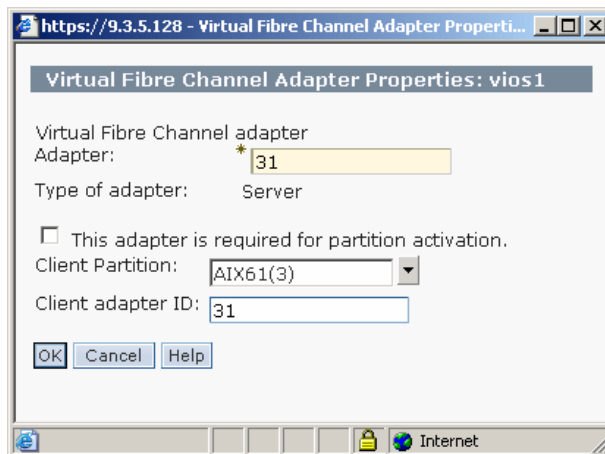

Figure 2-20 Set virtual adapter ID
- d. Enter the virtual slot number for the Virtual Fibre Channel server adapter, select Client Partition to which the adapter may be assigned to, and enter the Client adapter ID as shown in Figure 2-20. and click **OK**.